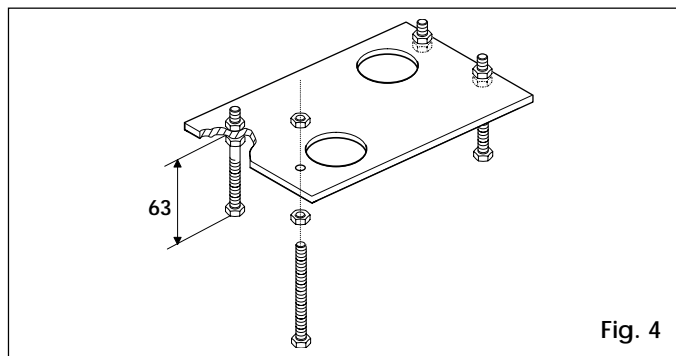

Fig. 4
- 1) Assemble the base plate as shown in Fig. 4.